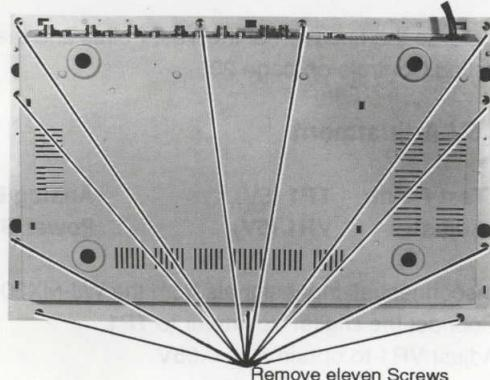

Fig. 2-1
- Referring to the Fig. 2-1, remove eleven screws fixing the Upper Cover.